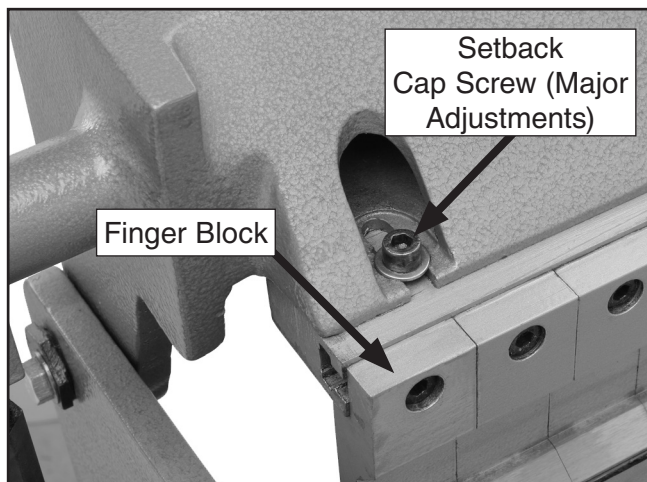

Figure 8. Setback adjustment cap screws.
2. Loosen all of the setback adjustment cap screws like the one shown in **Figure 8**, then adjust the finger block.